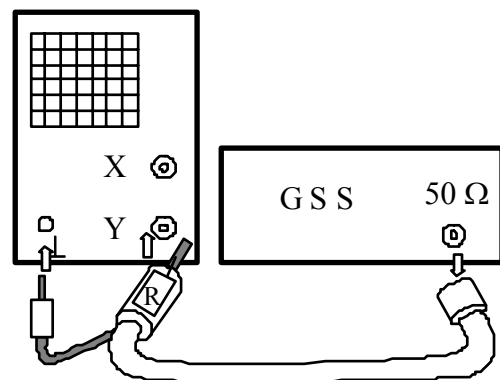

Figure 2
5. Input impedance measurement (figure 2)